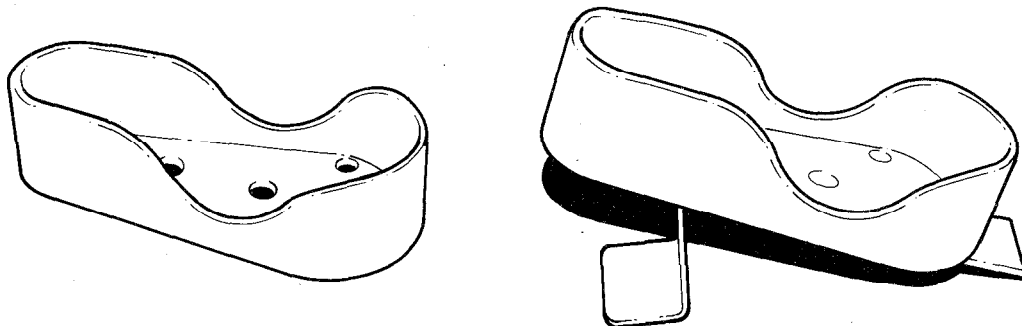

FIG 4 - BUTT BOX LOCATION
12. Bolt together the AustSteyr butt box and the new support bracket using the nuts and bolts retained in Para 9, using the rear three holes in the butt box as shown in Figure 4.